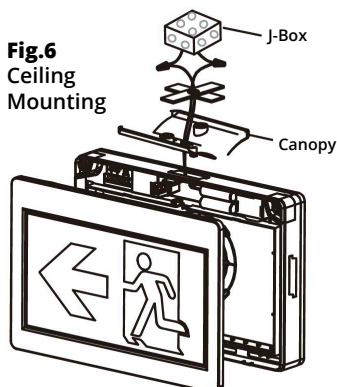

Fig.1
1. Open front cover with blade screw driver (see Fig.1)